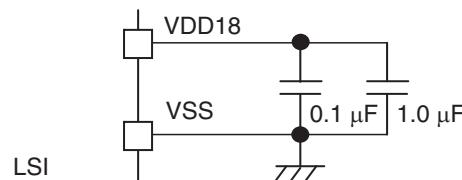

Figure:1.5.1 Capacitor Connection between VDD18 and VSS Pins
*3 Connect appropriate capacitor about $0.1 \mu\text{F} + 1.0 \mu\text{F}$ between V_{DD18} pin and V_{SS} pin, near the microcontroller according to the Figure:1.5.1 shown below for the internal power supply stabilization.